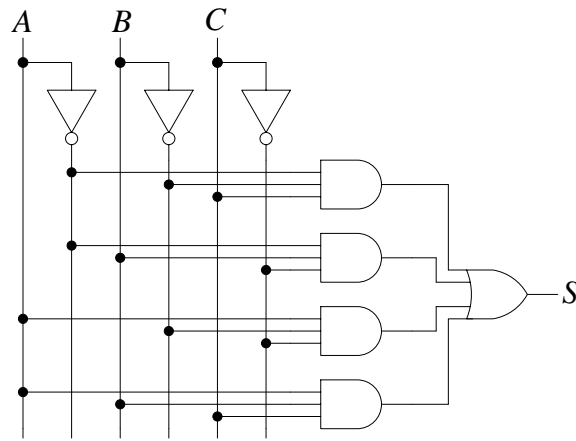

Figure 7: Combinational circuit for lab practice.
1. Determine the Boolean expression and the truth table of the output *S* of the combinational circuit of Figure 7.
2. Write down the structural Verilog code for describing the combinational circuit of Figure 7.
1. Perform the schematic simulation of the combinational circuit of Figure 7. Copy the schematic circuit and the simulation waveform in a Word file.
2. Perform the structural Verilog simulation of the combinational circuit of Figure 7. Copy the simulation waveform in the same Word file.